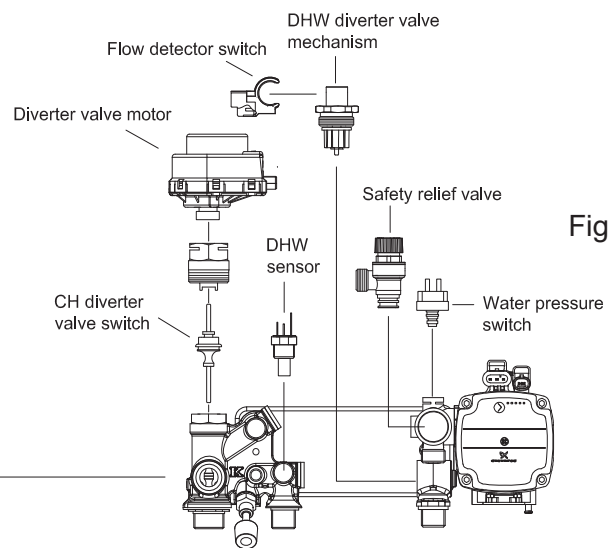

Fig.46
Unscrew the two allen screws that connect the DHW heat exchanger and pull it out from the boiler (fig. 46).
**8.12 TO REMOVE/REPLACE DIVERTER VALVE MOTOR (Fig. 46)**
**8.13 TO REMOVE/REPLACE C.H. DIVERTER VALVE (Fig. 46)**
Remove the panel control box (sect. 8.222). Close the on/off valves for the heating circuit and drain the water at drain point (fig.46).
**8.14 TO REMOVE/REPLACE D.H.W. DIVERTER VALVE MECHANISM ( Fig. 46)**
**8.17 TO REMOVE/REPLACE SAFETY RELIEF VALVE (Fig. 46)**
**8.18 TO REMOVE/REPLACE D.H.W. SENSOR (Fig. 46)**